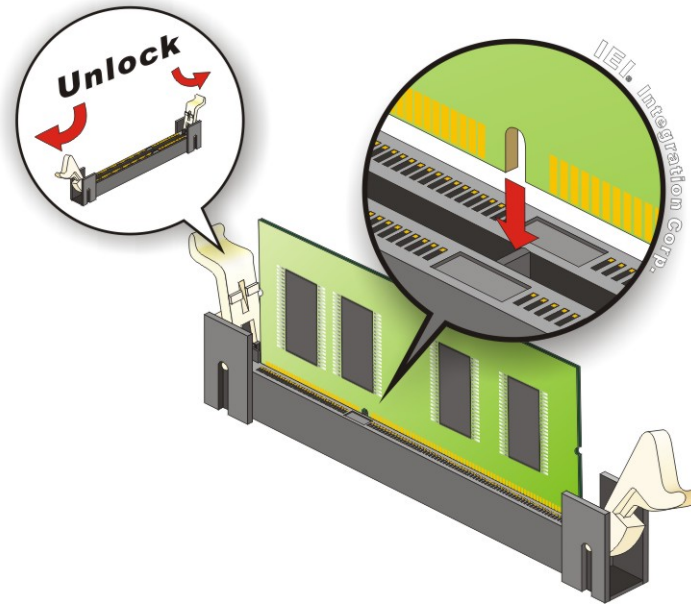

Figure 6-4: SO-DIMM Installation
Step 6: Align the new SO-DIMM with the socket. The SO-DIMM must be oriented in such a way that the notch in the middle of the SO-DIMM must be aligned with the plastic bridge in the socket (Figure 6-4).
Step 7: Press the SO-DIMM down until the arms of the SO-DIMM socket clip into place and secure the SO-DIMM in the socket (**Figure 6-4**).